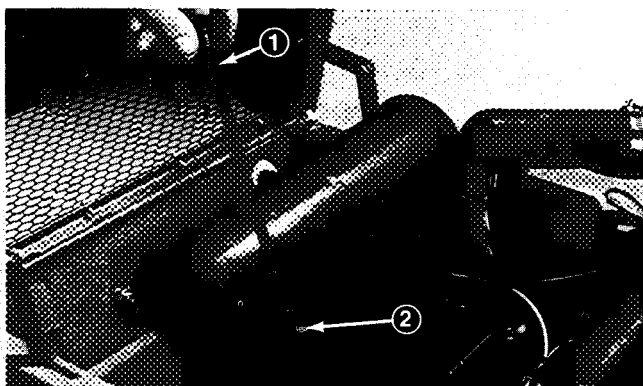

Figure 8
3. Unscrew dipstick and wipe it with a clean rag. Screw dipstick into the filler neck and make sure it is seated fully. Unscrew dipstick out of filler neck and check level of oil (Fig. 8). If oil level is low, add enough oil to raise level to FULL mark on dipstick.